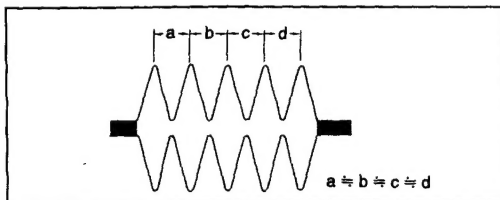

Fig. 4-11.
4-7. CUE AND REV WAVEFORM CHECK (See Fig. 4-11.)
- 1) Play back the alignment tape for tracking adjustment and set the REV mode. Confirm that waveform peaks maintain a constant pitch of 5 seconds or more (See Fig. 4-11). In case pitch is not constant, perform section 4-4. Tracking Fine Adjustment and section 4-6. No. 7 Guide Adjustment.
- 2) Set the CUE mode. Confirm that waveform peaks still maintain a constant pitch of 5 seconds or more (See Fig. 4-11). Otherwise, perform section 4-4. Tracking Fine Adjustment.